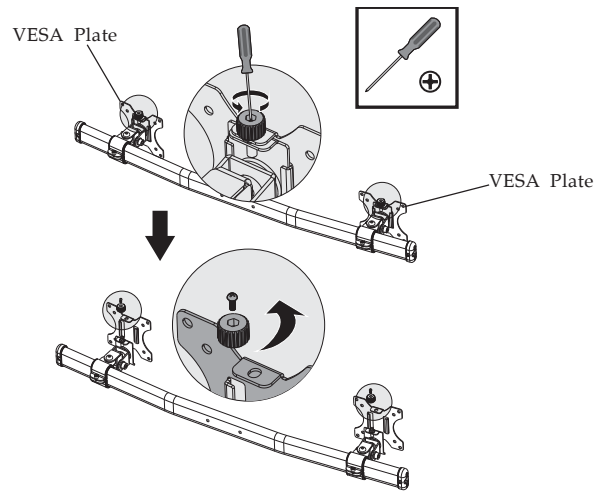

Figure 10
8. Remove the VESA plates from the Mounting Arm. Using a Phillips screwdriver, turn the mounting screw counter clockwise to remove it, then slide the VESA plate away from the mounting arm, see Figure 10 . **Note:** Save the removed parts for later use.